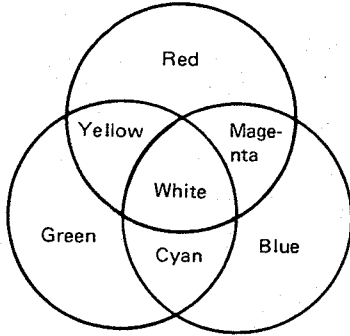

Fig. 8 Complementary Color
Let's consider the light output from the stripe filter. The cyan filter cuts off the red(R) light which is complementary to it, and the yellow filter cuts off the blue(B) light which is complementary to it. (Fig. 8).